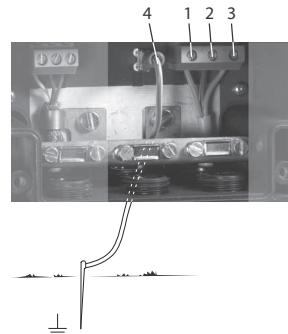

Fig. 4 Electrical connection and earthing
If the CIU unit is mounted on a DIN rail WITHOUT earth connection or on a wall, it must be connected to earth via the earth terminal. See fig. 4, pos. 4.
2. Connect the supply cable to the CIU unit (fig. 4, pos. 1, 2 and 3).